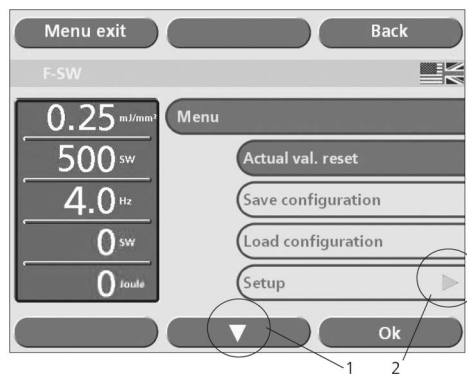

Fig. 5-3 List of the sub-menu items
- Sub-menu items that themselves have an additional sub-menu are identified by a green arrow to the right (**FIG. 5-3 /1**).
- If there are more than 4 menu items, they can be selected using the arrow keys (**FIG. 5-3 /2**). If one of the arrow keys disappears, this means no more selections can be made in this direction.